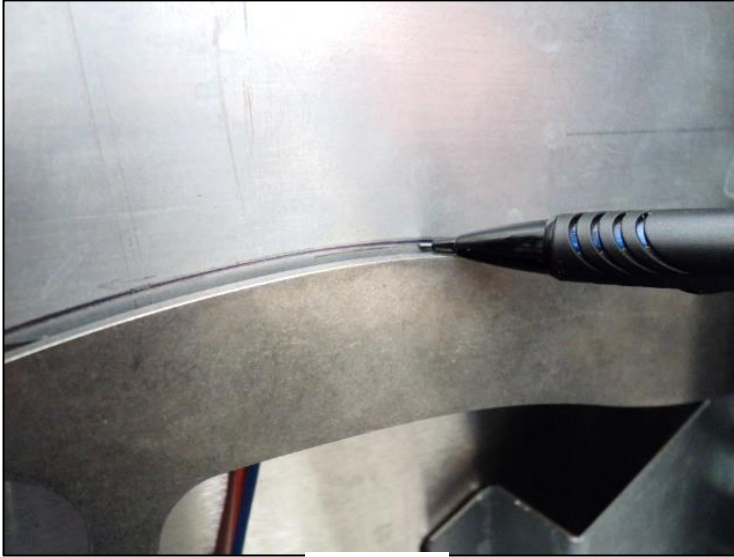

Figure 1
2. Using a pencil or pen, mark the position of both door hinge arms as shown in Figure 1.